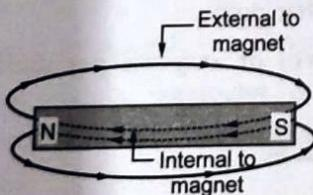

Fig. 1.3.2 Lines of force complete the closed path
- 2) Each line forms a **closed loop** as shown in the Fig. 1.3.2.